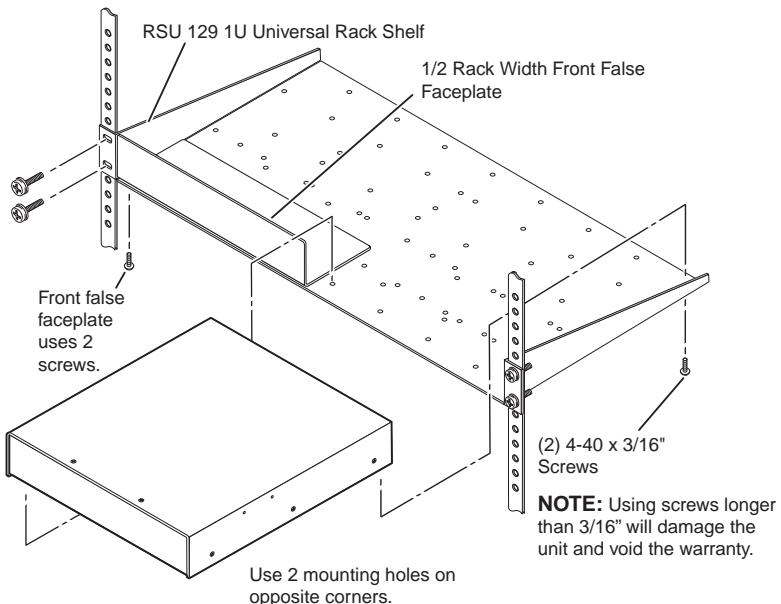

Figure 2-1 — Rack-mounting the switcher
The following Underwriters Laboratories (UL) guidelines pertain to the installation of the switcher into a rack (figure 2-1).
For optional rack mounting, mount the SW VGAr / Ars Series on an optional RSU 129 1U Universal Rack Shelf (part #**60-190-01**) or RSB 129 1U Basic Rack Shelf (part #**60-604-01**) (figure 2-1). The switcher mounts either to the right or to the left at the front of the rack.
2. Mount the SW VGAr / Ars Switcher on the rack shelf, using two 4-40 x 3/16-inch screws in opposite (diagonal) corners to secure the switcher to the shelf (figure 2-1).